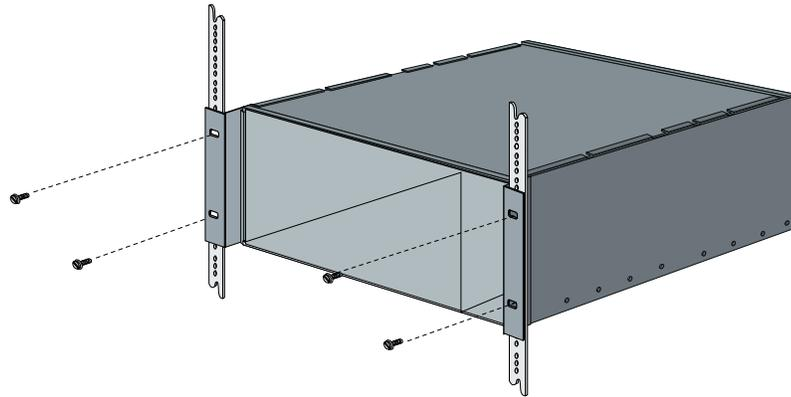

Figure 20. Typical 35 and 45A 19-inch Equipment Rack Installation
- 1 Slide the chassis into the rack. See Figure 20.